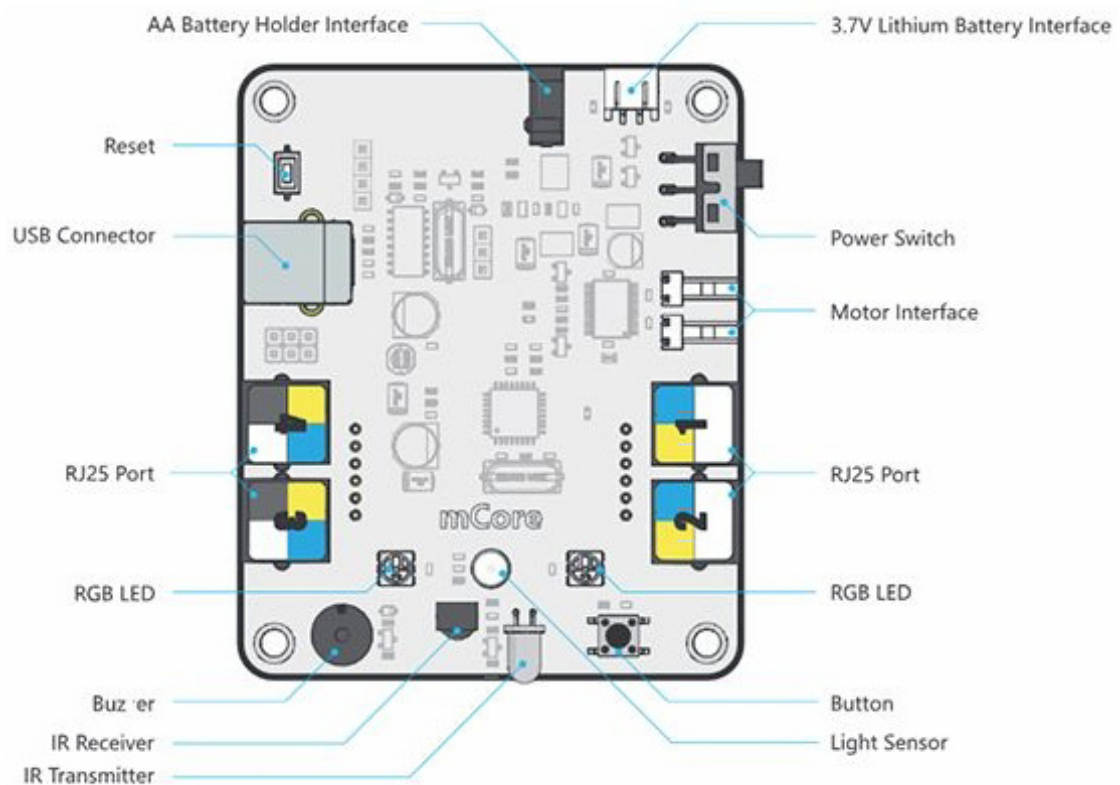

Figure 1: Layout of the mCore Main Control Board
4. As seen in Figure 1, the mCore has four RJ25 ports (for connecting cables that look like telephone cables). These ports can be used for connecting to other mBot accessories/sensors. From the schematic diagram of the mCore, you can see that only Ports 3 and 4 support reading analog voltage values (pins A0, A1, A2, and A3). This means that you can only use one of these two ports to read the analog voltages of your infrared proximity sensors (refer to Week 10 Studio 1).